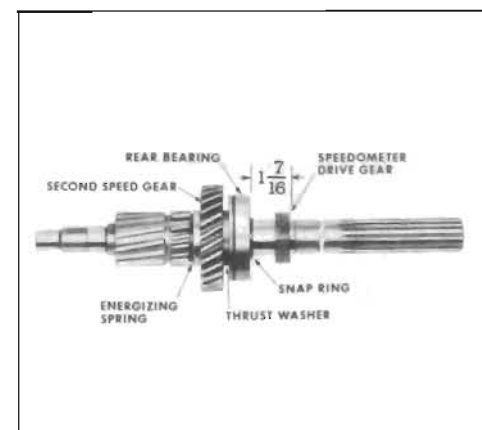

Figure 4-21—Mainshaft Identification
8. Start speedometer drive gear on shaft with chamfered I.D. of gear toward bearing. Press gear on shaft until forward face of gear is 7/8" from face of bearing. See Figure 4-21.